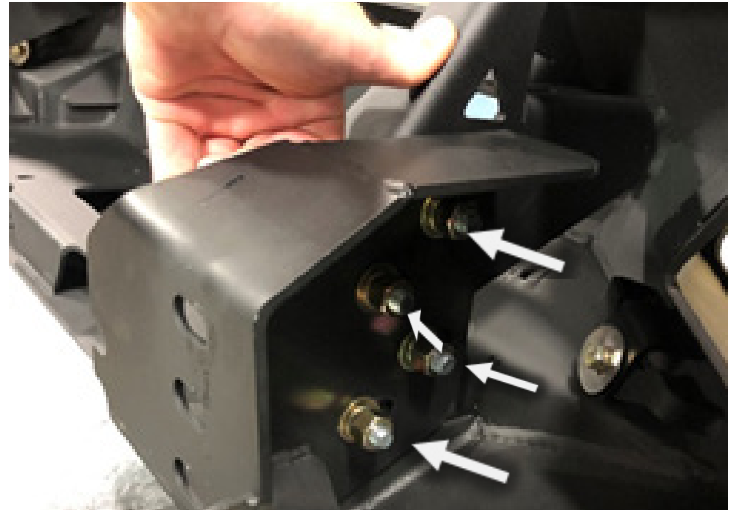

Figure 13
14. Using the provided ½"-13 yellow zinc flat washers, yellow zinc lock washers, and yellow zinc hex nut, loosely install the bracket to the outside of the winch tray. (Figure 13)